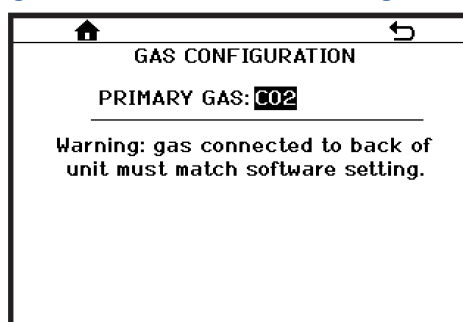

Figure 7.17
- GAS CONFIGURATION: Used to display and, based on dispenser model, select the gas that will be used in the dispenser (Figures 7.17 and 7.18).
- For standard dispensers with no multi-gas or multi-drink functionality (**Figure 7.17**) this menu displays the gas (CO2 or NITROGEN; determined by dispenser configuration) that is injected into the barrels and that operates the water pump and active charge system.